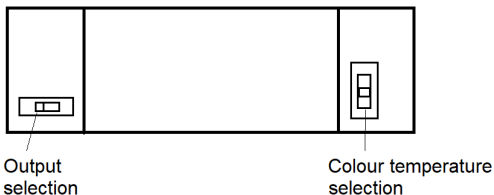

Fig. 4
- Select the desired driver output and colour temperature via the switches on the driver (see Fig. 4)